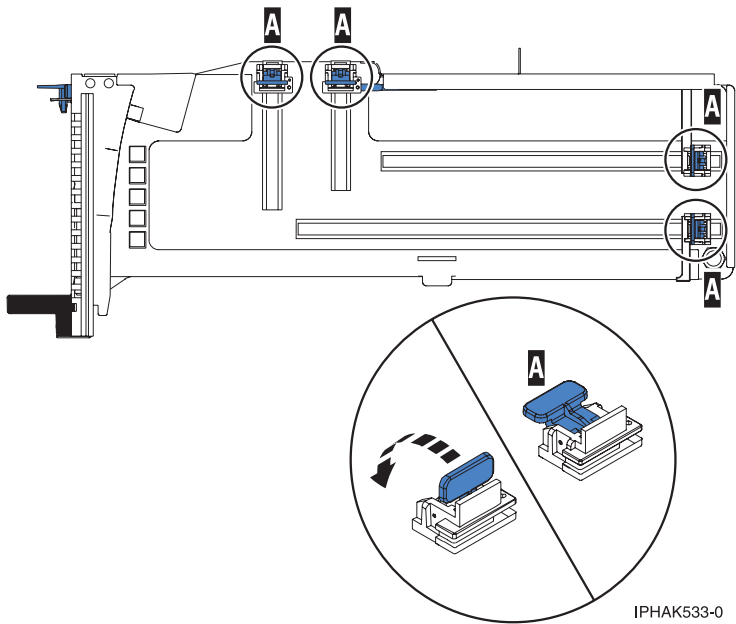

Figure 142. Adapter retainers
- b. Ensure that all of the adapter retainers (A) have been pushed out to the edges of the cassette to allow the placement of the adapter. See Figure 142 on page 164.